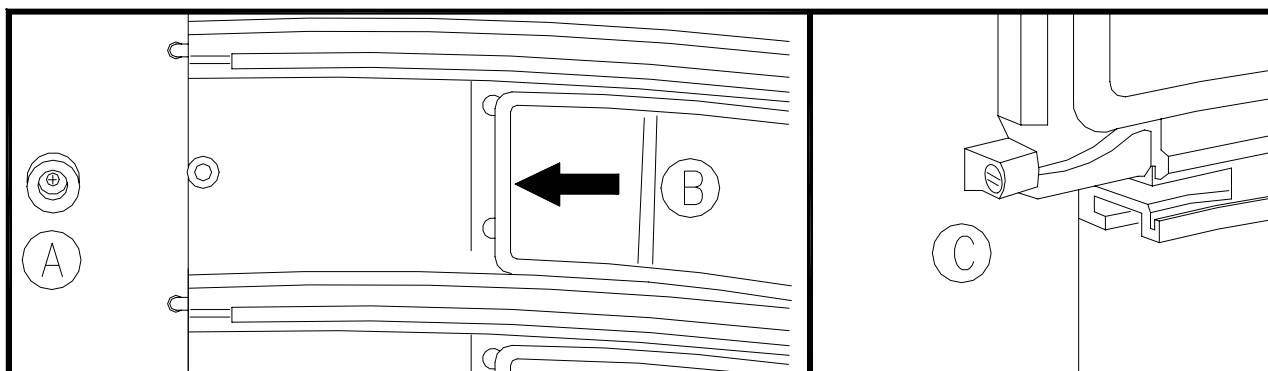

FIG. 19
4. Remove the limit stop pos. A FIG. 19 (if present);